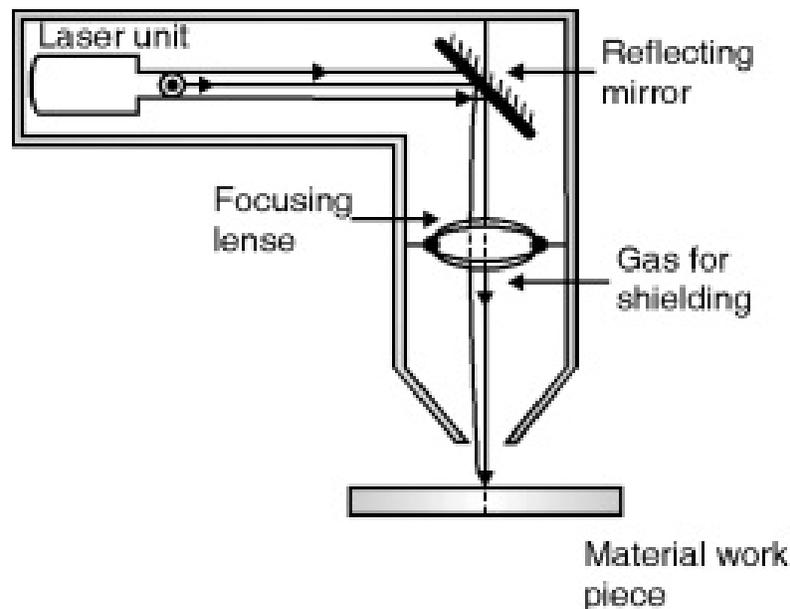

Fig. 4.14.2 : Laser welding machine
perfect and non porous joints of metals are possible. The typical laser welding machine is as shown in the Fig. 4.14.2.
- The typical laser welding machine is as shown in Fig. 4.14.2.